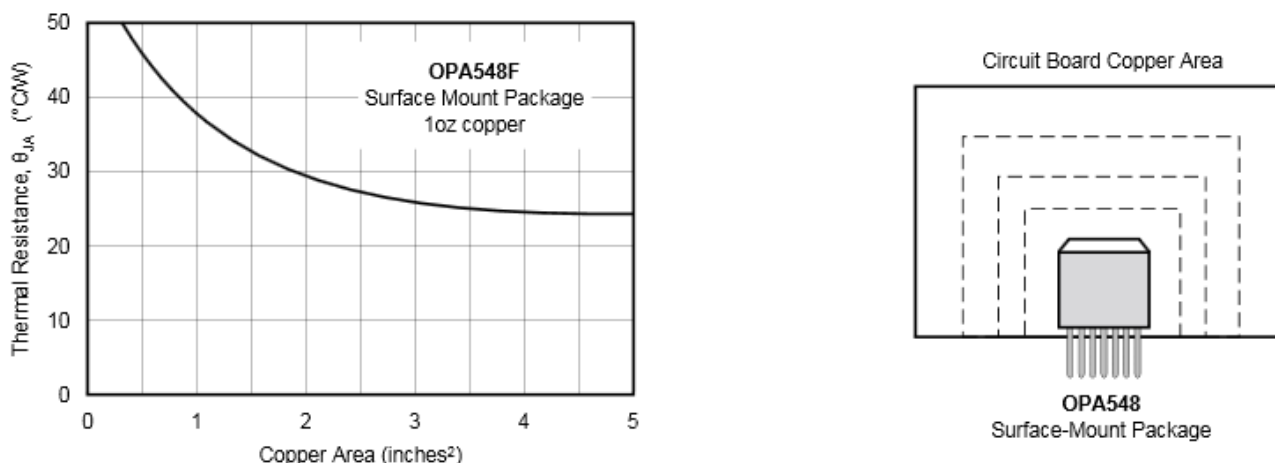

Figure 43. DDPAK Thermal Resistance vs Circuit Board Copper Area
For best thermal performance, the tab of the DDPACK surface-mount version should be soldered directly to a circuit board copper area. Increasing the copper area improves heat dissipation. See Figure 43 for typical thermal resistance from junction-to-ambient as a function of the copper area.
- (1) For improved thermal performance, increase footprint area. See Figure 43.
- (2) Mean dimensions in inches. Refer to the mechanical drawings or www.ti.com for tolerances and detailed package drawings.